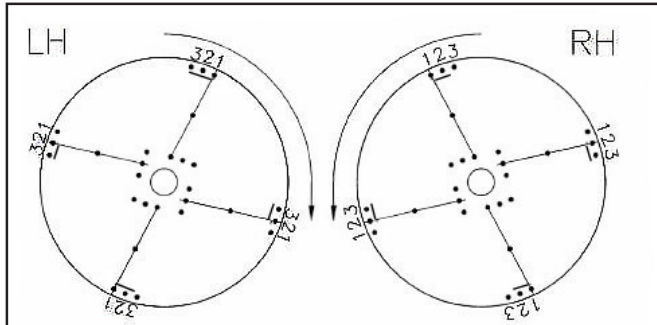

Figure 3a - Fin locations for 30" bottom
4. Place fin hole closest to gusset over proper hole on outer edge of spinner disc per Figures 3a or 3b as applicable.
- Figure 3a - 30" wide bottom: Two opposing fins in position 1 and two opposing fins in position 2.